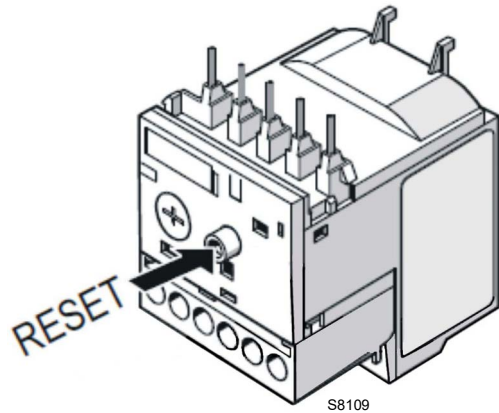

Fig. 30
- To reset, in the case of an intervention of the electronic relay, press the button **"RESET"** (Fig. 30).